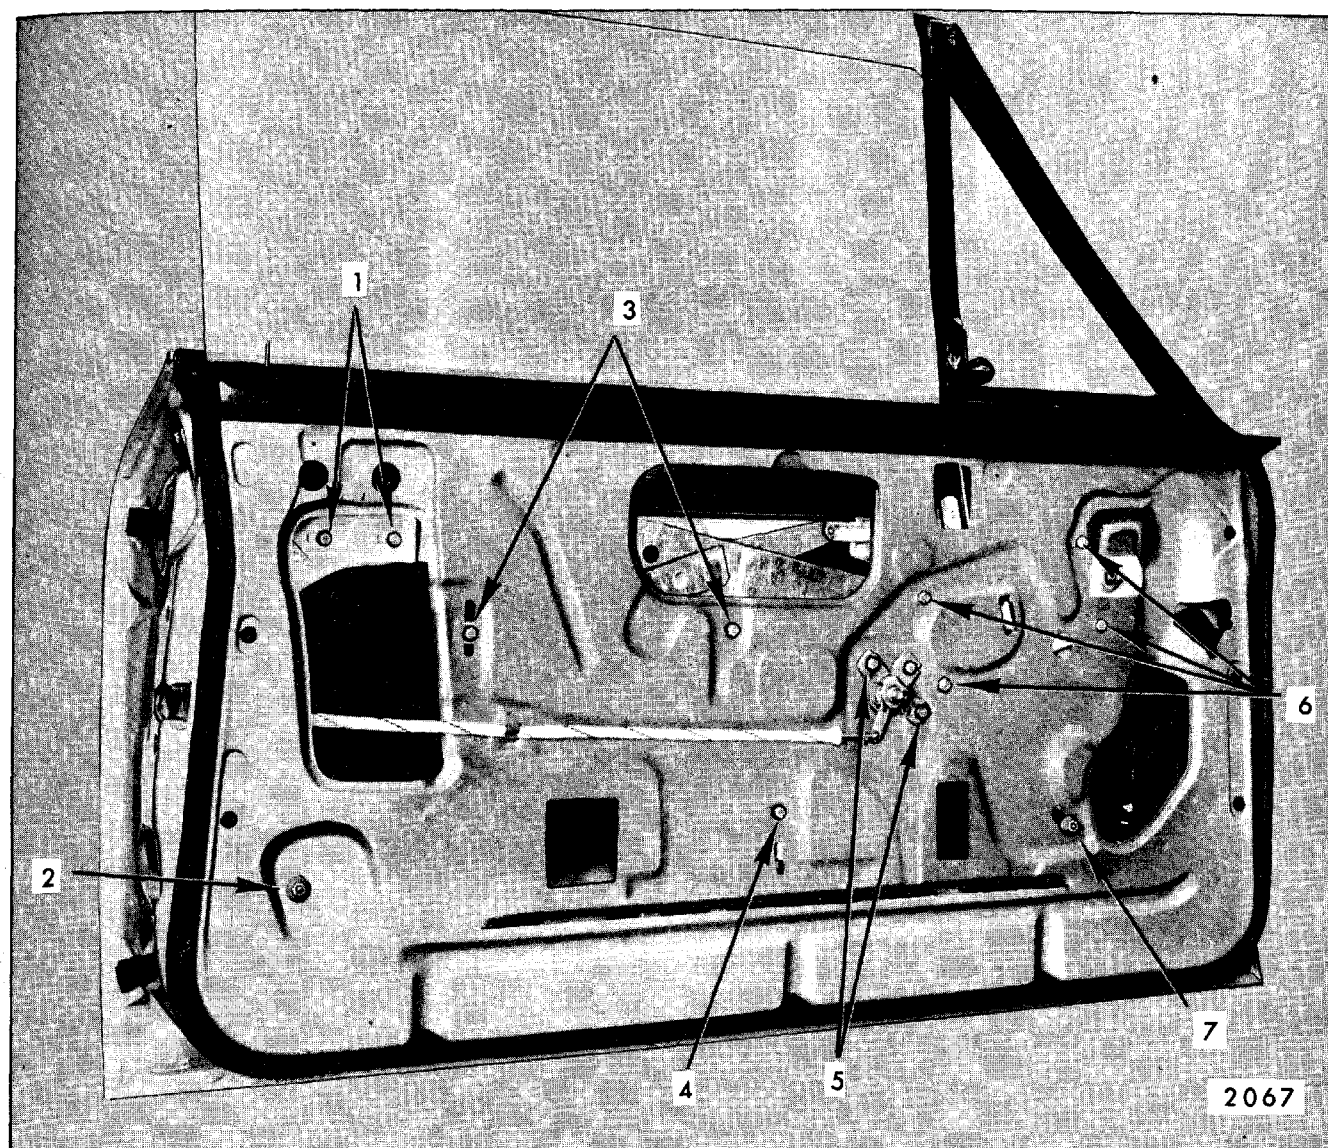

Fig. 7-82—Front Door Hardware - "A-17 and 67" Styles
1. Raise door window to a position almost fully closed (see Fig. 7-82).
3. Remove two bolts securing guide plate to glass lower sash channel and remove guide plate (see Fig. 7-82).
**NOTE:** Figure 7-82 is for "17 and 67" Styles. Refer to Figure 7-87 for "39" Styles.